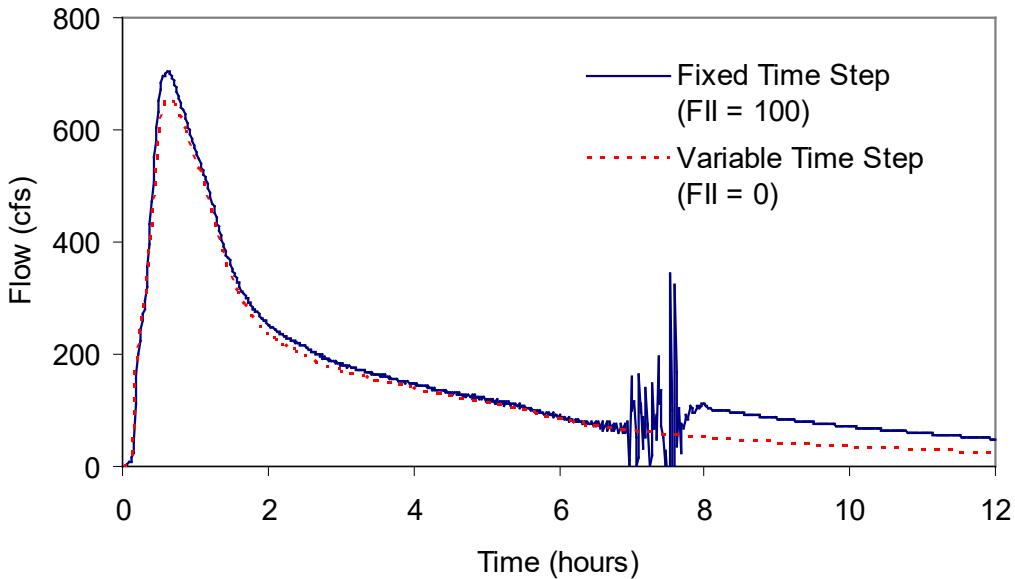

Figure 8-1 Flow Instability Index for a flow hydrograph
As an example of how the Flow Instability Index can be used, consider Figure 8-1. The solid line plots the flow hydrograph for the link identified as having the highest FII value (100) in a dynamic